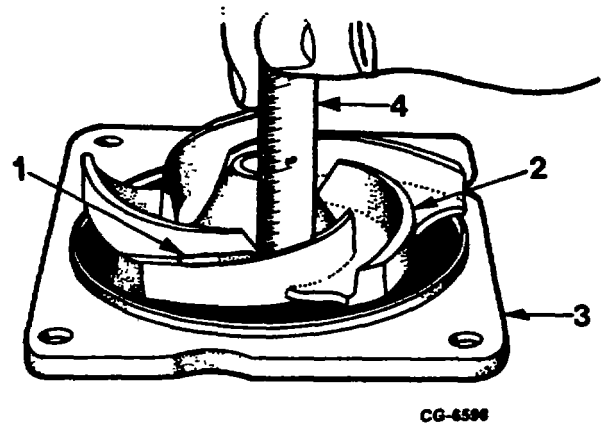

Figure 167. Measuring Thickness of Moulding Clay to Determine Impeller Clearance
- c. Remove pump assembly and check thickness of moulding clay (Figure 167). If clearance exceeds specifications, the water pump must be replaced.